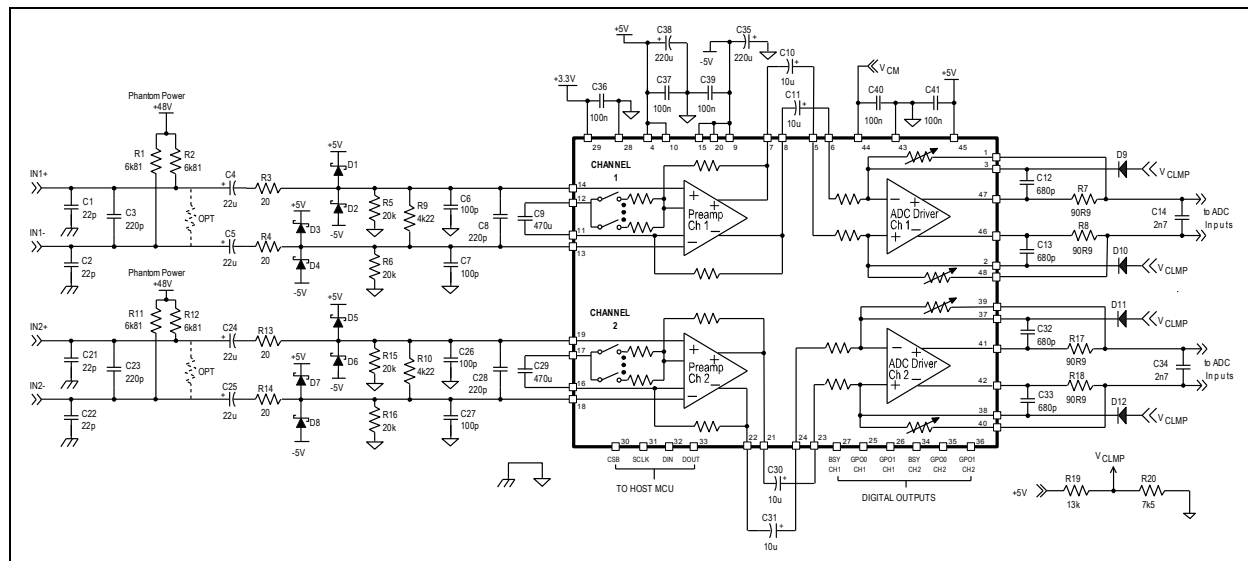

Figure 17. A typical bipolar-supply THAT 626x application circuit. See also Figure 18 for an alternative ADC anti-aliasing filter configuration.
Figure 17 is a typical 626x application circuit utilizing bipolar power supply rails. In this section, we discuss channel 1 in detail. However, all of the comments apply to the analogous components in channel 2.
The coupling capacitor (C9 in Figure 17, or CG in Figure 12) limits DC gain in the preamplifier to unity, regardless of the differential audio gain setting. The on-chip gain-setting  $R_G$  resistors in series with these capacitors vary with gain, which causes the cutoff frequency of the resulting high-pass filter also to vary with gain. This filter reaches its highest frequency at the minimum  $R_G$  (the highest gain), which is about 45  $\Omega$  (see Table 2). Hence, the highest cut-off frequency, with the 470 $\mu F$  value shown in Figure 17 is  $\sim 7.5$  Hz. Larger values will scale this frequency down proportionately. Since these capacitors, which are often physically large and stick up from the PCB, are effectively in series with the preamplifiers' inputs, they can serve as antennae to collect interfering signals. Take care to minimize possible sources of interference nearby that may be picked up by these large coupling capacitors.
The 626x ADC driver inputs (pins DI+CHx and DI-CHx) are capable of accommodating the full differential and common-mode signal range at the pre-amp outputs. However, the ADC driver’s fully-differential opamp inputs (brought out on pins CFB+CHx and CFB-CHx) have a common-mode input range of 1V to +5V. If this common-mode range is exceeded in the negative direction, the opamp’s inputs and outputs can get stuck close to ground. Diodes D9 and D10 in Figure 17 clamp the minimum voltage at the ADC driver opamp’s inputs to one diode drop below the voltage  $V_{CLMP}$ . For  $V_{CLMP}$  nominally +1.8V, the diodes ensure that the opamp’s inputs do not go below 1V above ground. This ensures that the ADC driver will accept the full 3.8Vp common-mode signal swing that can be present at the preamp outputs.
+5V) and ground. In Figure 17, this divider is made up of 13 k $\Omega$  and 7.5 k $\Omega$  resistors R19 and R20.
Phantom power is required for many condenser microphones. It is connected to the preamp inputs through resistors, R1 and R2, per +48V phantom power standards. THAT recommends the protection circuits as shown in Figure 17 when phantom power is included. R3 and R4 are to limit the current that flows through the preamp inputs during phantom power faults that can occur if one or both of the inputs are shorted to ground while phantom power is on. We recommend that R3 and R4 should be at least 20  $\Omega$  to limit destructive currents to under  $\sim 2.5$ A. (Higher values provide more protection by further limiting current flow, but their additional source impedance adds noise.) The protection resistors used should be able to handle the short-term inrush current; many small surface-mount types cannot. With the values shown for C4 and C5, we recommend at least ¼ W resistors.
Figure 17) when C4 and C5 are as shown at 22  $\mu\text{F}$ . The large 220  $\mu\text{F}$  capacitor absorbs the charge dumped by C4 and/or C5, and keeps the  $-5\text{ V}$  rail from being pulled excessively negative, which could damage the 626x. If larger values are employed for C4 and C5, then C35 and C38 should be increased proportionately.
The most common anti-aliasing filter configuration for driving audio ADCs is shown in Figure 17. Capacitors C12 ~ C14, resistors R7 and R8, and the internal feedback resistors of the ADC driver form a second-order lowpass filter. Since R7 and R8 are inside the amplifier's feedback loop, the closed-loop output impedance remains quite low inside the audio band, but they still serve to isolate the ADC driver's output from the high-frequency charging currents for the typical ADC's switched-capacitor inputs. C14 should be placed physically close to the ADC input pins.
As noted above, in the 6261, the ADC driver's internal feedback resistors vary, which will have a small effect on the overall filter response. The frequency response for the  $-8\text{ dB}$  case is  $-3\text{ dB}$  at 560 kHz and  $-48\text{ dB}$  at 6.144 MHz. The response of the  $-5\text{ dB}$  case is  $-3\text{ dB}$  at 419 kHz and  $-51\text{ dB}$  at 6.144 MHz. As with the filter shown in Figure 17, for
As shown in Figure 17, THAT recommends a 100nF capacitor to ground on all the supply rails plus the VCM reference (pin 44) for high frequency noise filtering. For best effectiveness, place each 100nF capacitor close to its associated pin in the PCB layout. For rails with multiple pins, e.g.,  $V_{A-}$  and  $V_{A+}$ , only a single 100nF capacitor is needed per supply; connect the capacitors near pins 9 and 10.
- Delete clamp diodes D9 and D10 and the  $V_{CLMP}$  voltage divider R19 and R20 (from Figure 17) as these are not required for unipolar operation.
Further, the DC level of the preamplifier output is one  $V_{BE}$  below +5V Filt (thus about +4.3 V), while the ADC driver input’s DC level is at  $V_{CM}$  (nominally +3.1 V). Hence, the ac-coupling capacitors between the preamp and ADC driver stages (C10 and C11) are reversed in polarity from those in Figure 17. We recommend these capacitors be rated at least 3.3 V.
Because the ADC driver  $V_{cm}$  voltage is set to +3.1V for unipolar applications, the full common-mode swing output swing from the preamp cannot force the ADC driver opamp inputs below the minimum allowable level. Hence, diodes D9 and D10 (and the associated voltage divider) as in Figure 17 are not needed when the 626x is powered by unipolar supplies.